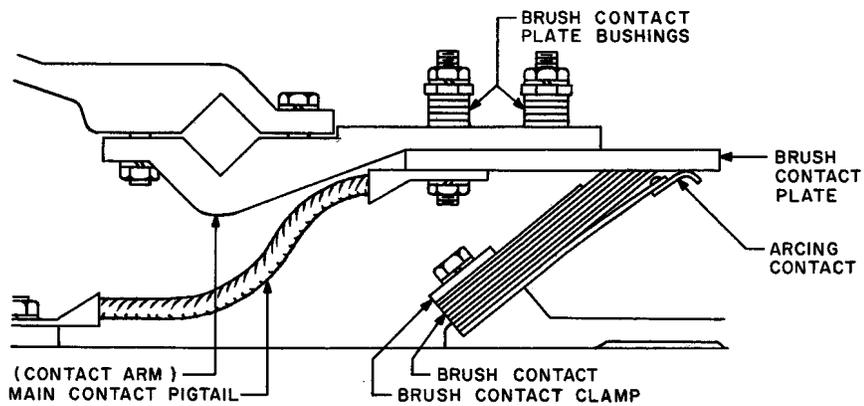

Fig. 8 - Main Contact Structure of 150-Ampere Contactors
3.08 Brush Contacts — See Fig. 8, 9, and 10
3.09 Brush Contact Plate — See Fig. 8